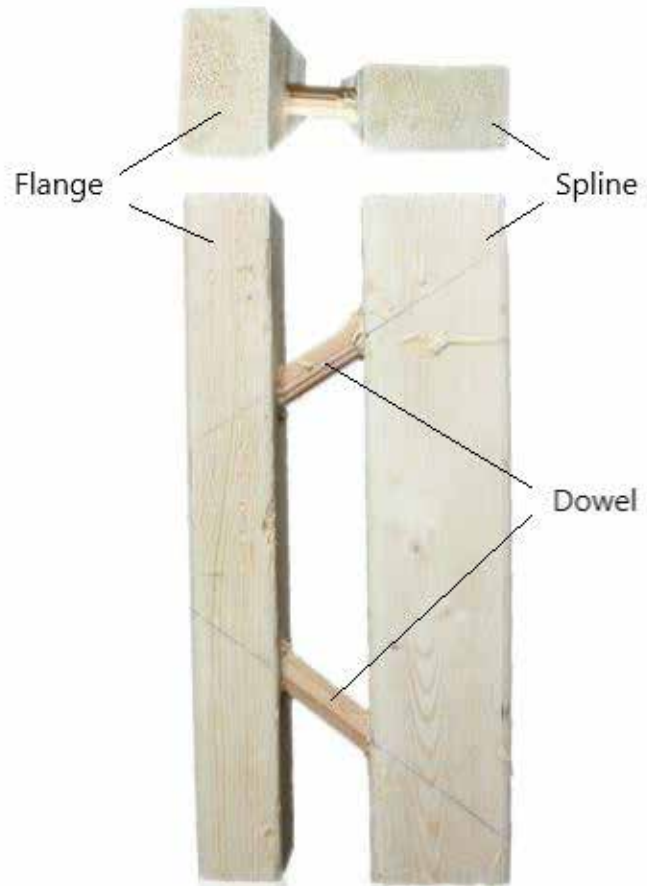

Figure 1. BareNaked Tstud™
BareNaked Tstud™ is made from two (2) 2x3 or 2x4 No. 2 Spruce Pine Fir (SPF) members and wooden dowels. The overall depths of the BareNaked Tstuds™ are 5½" or 7¼". A flange and spline oriented perpendicular to one another to form an L-shape (see Figure 1 below). The lumber is placed in a form that leaves a gap of approximately 1½" between members. Wooden dowels are installed through one member into the other at opposing angles, forming a web-like pattern. Dowels are spaced evenly at a distance not to exceed 6½" o.c. (2 per 12") and glued in place.
1. See Figure 1 for spline and flange orientations. Spline and flange sizes vary depending on the stud depth.